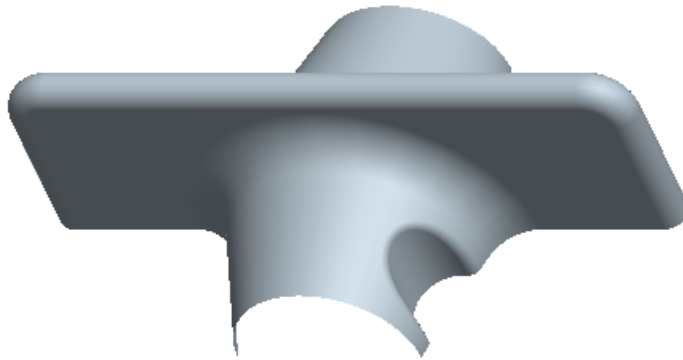

Figure 13-102 Completed surface model
4. Select the top face of the base surface. The preview of the round is highlighted on the selected surfaces. Exit the **Round** dashboard by choosing the **Build Feature** button. The round is created as shown in Figure 13-102.